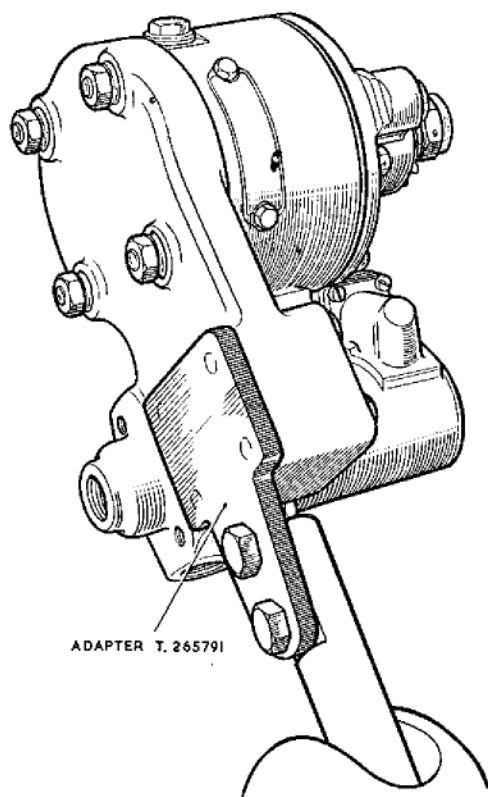

Fig. 1. Dismantling and assembling fixture
8. Mount the unit on the standard hydraulic fixture T.265791/H and the adapter T.265791 (*fig. 1*).
58. Assembling should be carried out with the unit mounted on the assembling fixture T.265791/H (*fig. 1*).